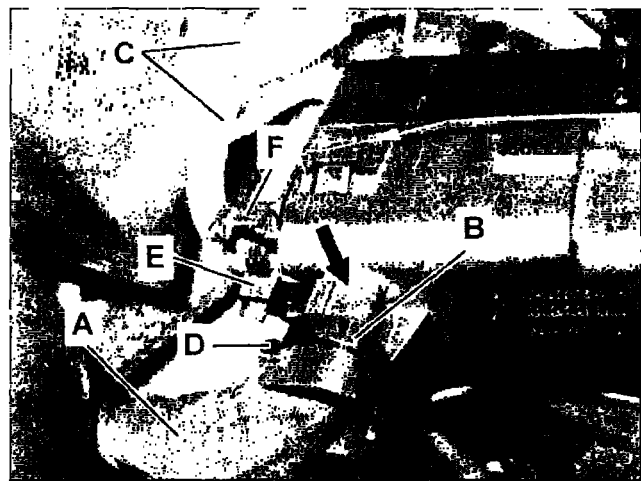

Figure 13
13. Secure SBC wiring harness (A, Figure 13) (**excluding** ground wires) to the SBC connector cover harness receptacle (arrow) using a new cable tie (B).
- Ensure that the SBC wiring harness (A) is properly routed so that it is free of tension in the SBC connector housing.
- The cable tie "buckle" (D) **must be located at the side of the connector cover harness receptacle (arrow) as depicted.**
14. Secure ground wiring harness (C, Figure 13) to the SBC connector housing receptacle (F) using a new cable tie (E).